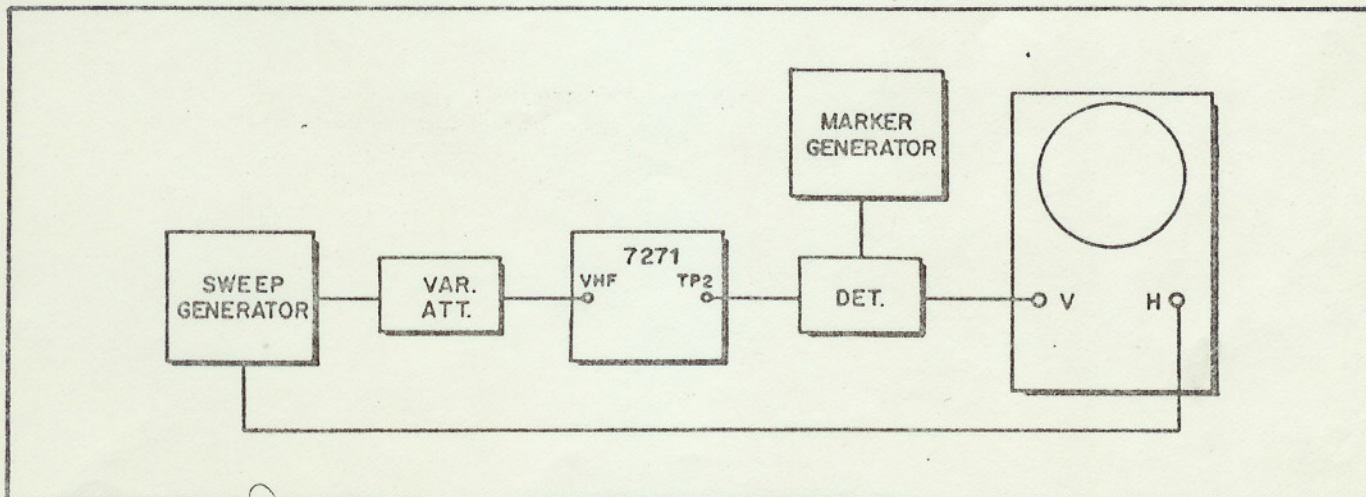
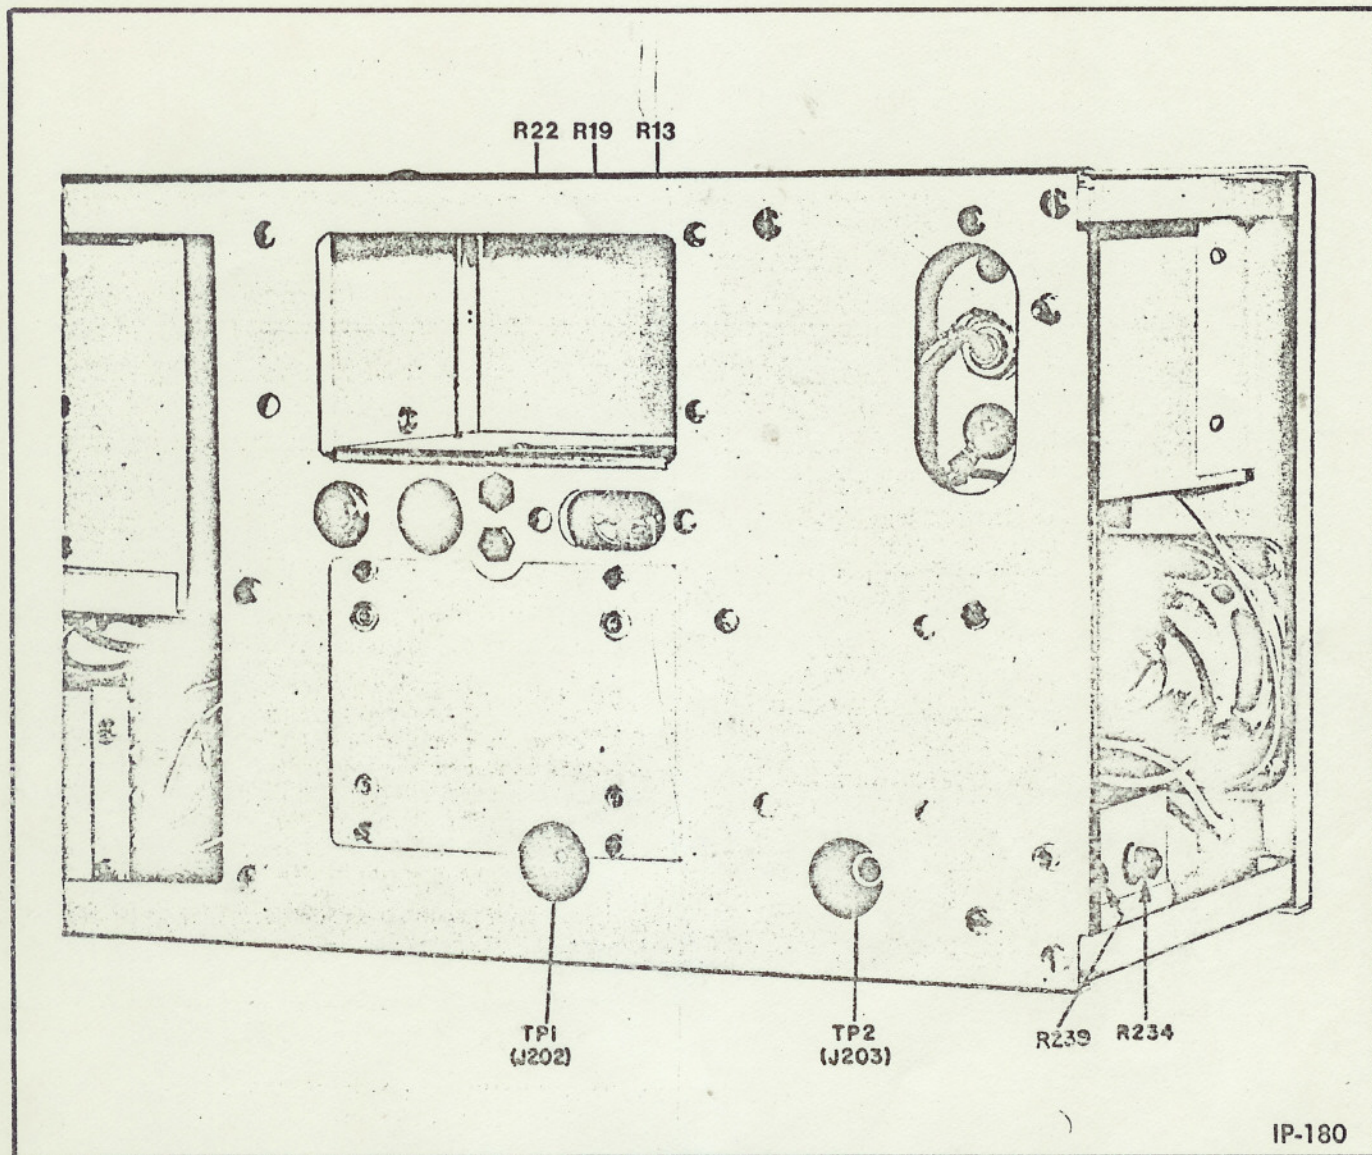

Fig. 5-4. Setup for I-F Amplifier Alignment
Fig. 5-8. Location of R234, TP1, and TP2
9. Set up equipment as shown in Fig. 5-4; test point No. 2 is accessible through a hole in the chassis rear panel near the lower left corner (Fig. 5-8).